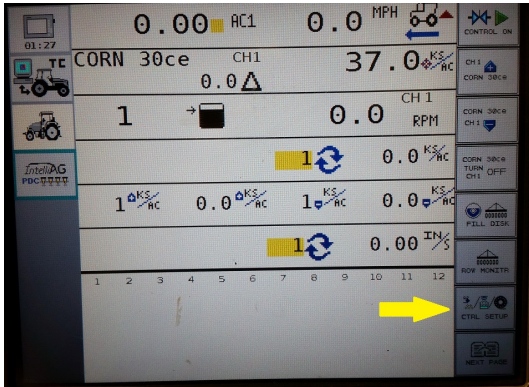

Figure 6
Step 2. Select **Control Setup**. (Figure 6)